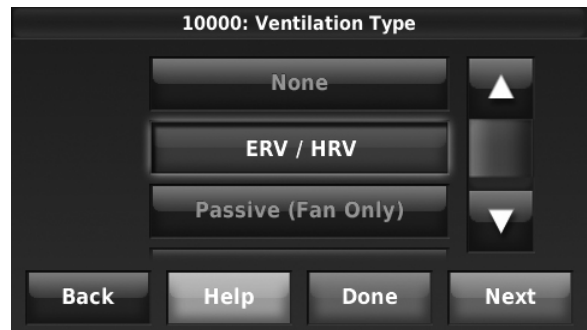

Fig. 248.
1. Select the Ventilation Type in ISU 10000. See Fig. 248.